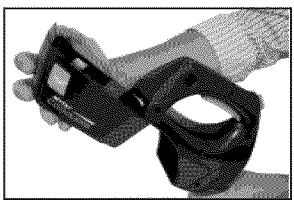

Figure 16 - Placing battery in trimmer
1. Place fully charged battery in trimmer. (See Figure 16)